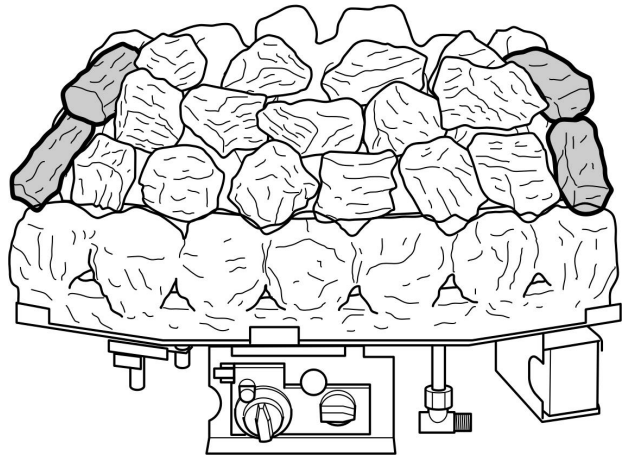

Figure 10.
4. Take four finger dress coals and position as shown in figure 10.